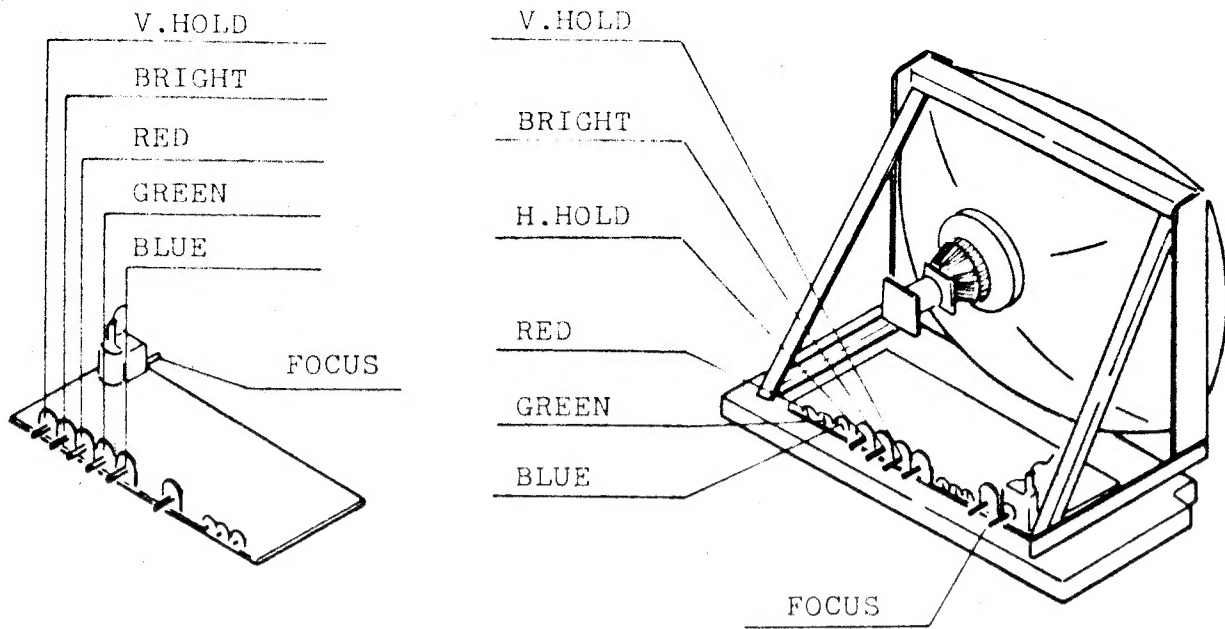

Fig. 6
8. Adjustments on Color Video Monitor (See Fig. 6)